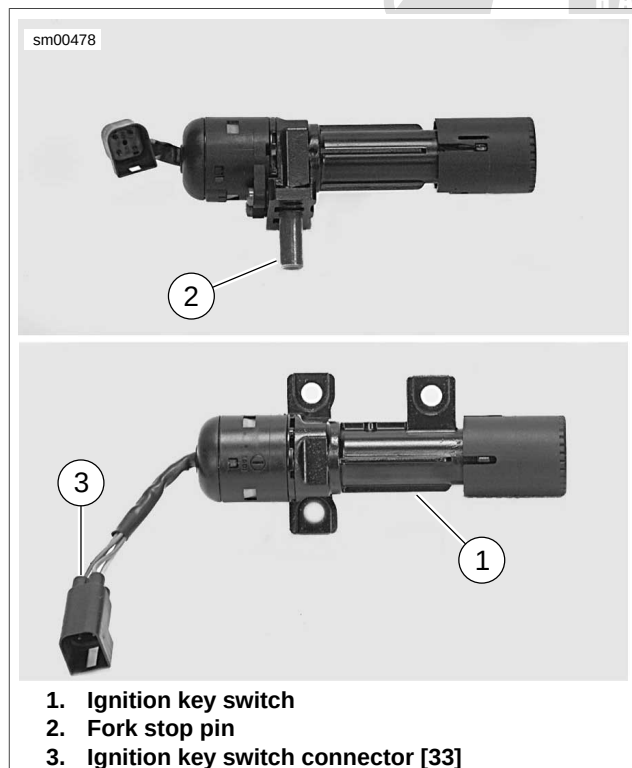

Figure 7-11. Ignition Key Switch
6. Remove the final ignition switch fastener (6) along with spacer (3) located behind the ignition switch.
7. See Figure 7-11 While holding the throttle cables to your left (the right side of the vehicle), pull the ignition switch (1) toward you and roll the assembly away from you until the fork stop pin (3) is pointing down.